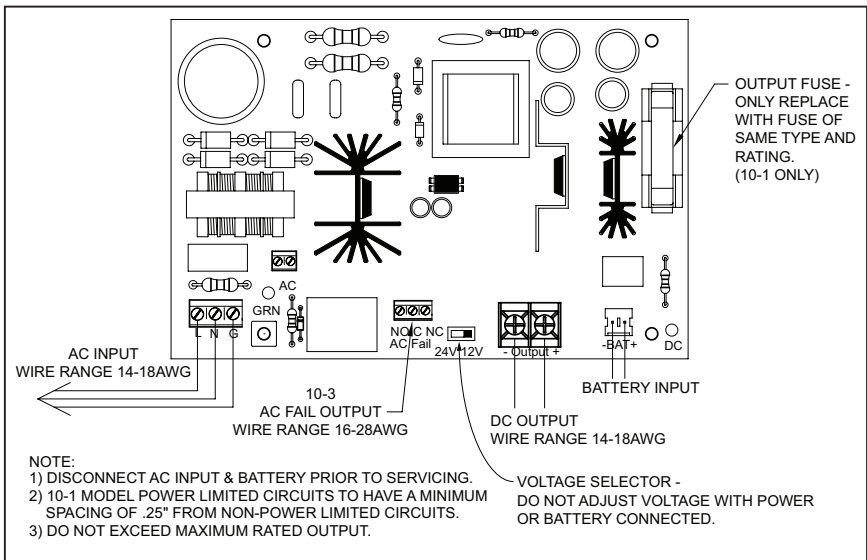

Fig. 1 - Power Supply Circuit Board
2. Route AC power through appropriate knockout and connect to the AC input terminals as marked (See Fig. 1). Use ground feature with 8-32 ground screw provided.
3. Run wiring for devices to be powered through panel knockouts as required and connect to DC output terminals (See Fig. 1). Minimum 22 AWG and maximum distance of 98.5ft (30m) for field wiring. Use listed conduit or bushings for all knock-outs. Accessory boards mounted in the enclosure require 13mm high non-conductive stand offs.
4. Set DC output voltage selector switch to desired voltage prior to connecting battery and energizing AC input voltage (See Fig. 1). **Do not adjust voltage with power or battery connected.**
6. Connect backup battery(s) to battery leads if required using the supplied cables that are suitable to the installation. Ensure correct polarity (See Fig. 1).